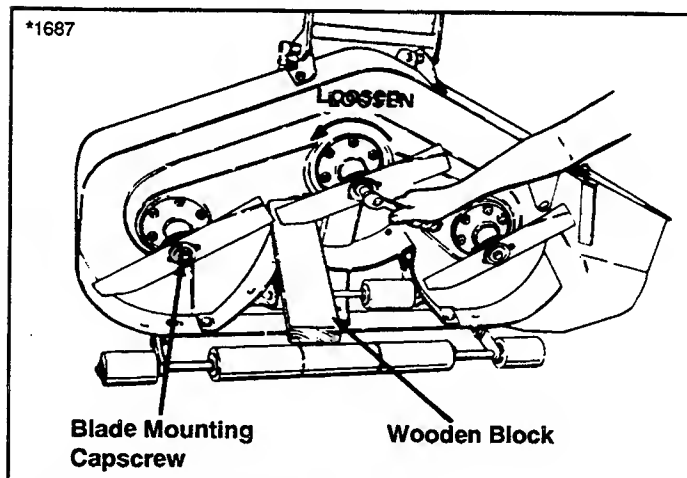

Figure 21. Removing The Blade
3. To remove blade for sharpening, use wooden block to hold blade while removing the blade mounting cap screw (figure 21).